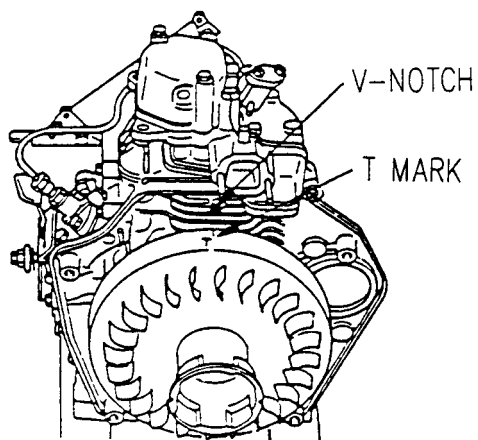

Figure 4-10. T Position Mark
- c. Align T mark on flywheel with V notch on cylinder body fin, refer to Figure 4-10. Ensure both valves are fully closed (both rocker arms have free play).